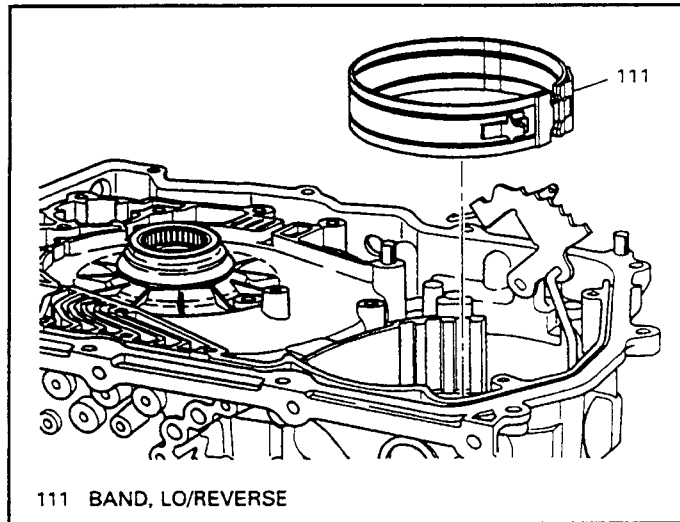

Figure 113
12. Install the Lo/Reverse band (111) into transaxle case as shown in Figure 113.
13. Align the band servo pin apply surface toward the bottom pan and hook the band onto band anchor pin in the transaxle case as shown in Figure 113